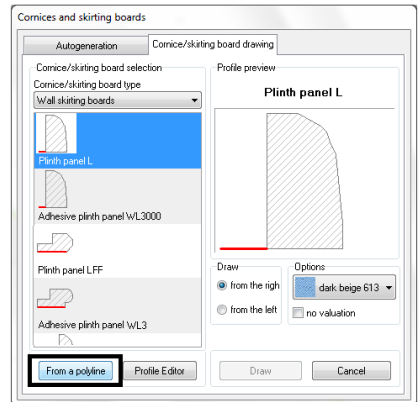

Fig. 235 – Cornices... window, Drawing cornices tab
- then select a profile for cornice and press the **From polylines** button at the left lower corner of the **Cornices** dialog box (Fig. 235);